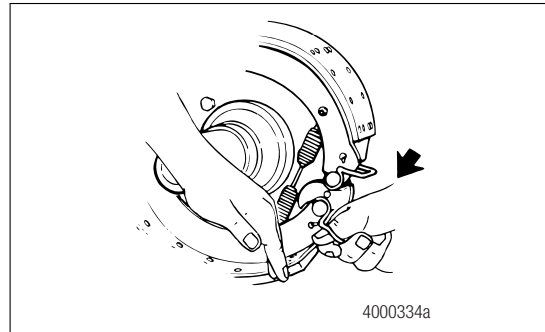

Figure 3.3
1. Push DOWN on the bottom brake shoe. Pull on the brake shoe roller retainer clip to remove the bottom roller. Figure 3.3.